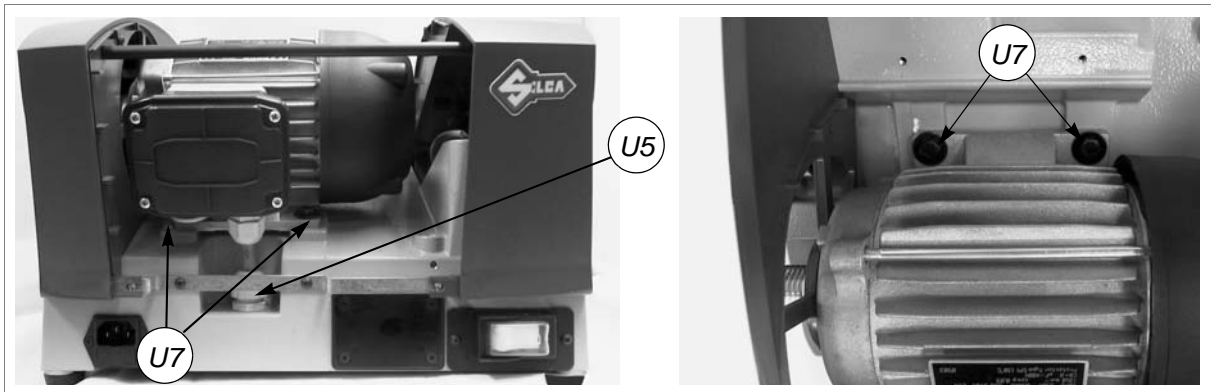

Fig. 36
- 8) Loosen the fairlead (U5) (fig.36).